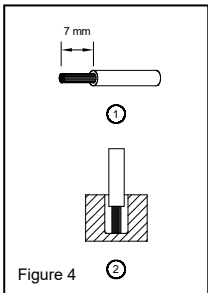

Figure 4
(1)	0.82-8.4	18-8	9.333	8.1
(2)	3.3-5.3	12-10*	9.333	8.1
To secure reliable and shock proof connections, the stripping length should be 7 mm (see Fig. 4 (1)). Please ensure that wires are fully inserted into the connecting terminals as shown in Fig. 4 (2). In accordance to EN 60950 / UL 60950, flexible cables require ferrules.